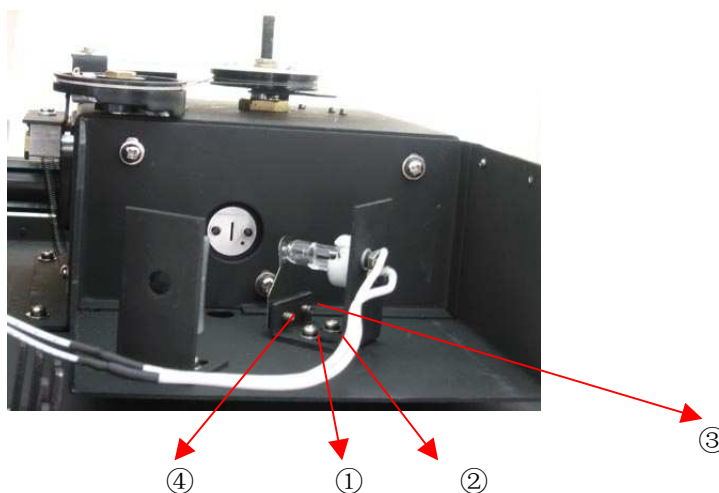

Fig. 2-4
- 8) Unscrew ① & ② in Fig.2-4, then unscrew □ & □.Unplug and remove the lamp from ceramic base (the white connector). Insert the new lamp; pushing it in as far as it will go. Then tighten screw □ & □.